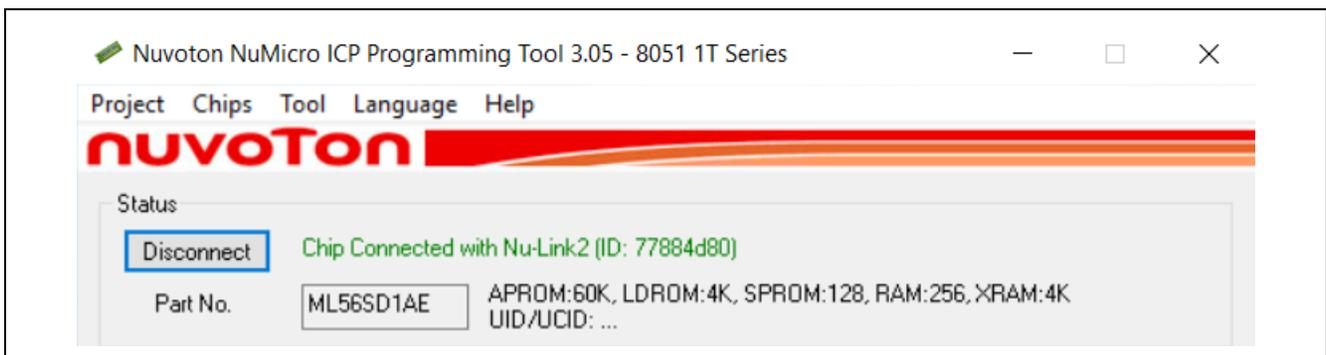
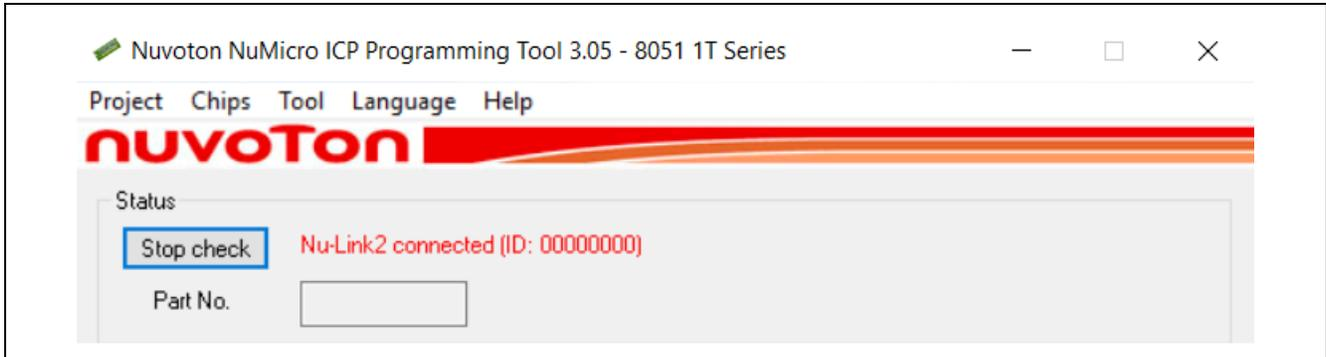

Figure 4-6 Nu-Link2-Pro Connected with a Target Chip Detected
Figure 4-7 Nu-Link2-Pro Connected with No Target Chip Detected
(8) After the **Connect** button is clicked, the ICP Tool will be connected with the Nu-Link2-Pro, and an SWD port will be detected. Figure 4-6 shows that the ICP Tool has been connected with the Nu-Link2-Pro and a target chip is detected. Meanwhile, users can start programming the target chip.
(9) Figure 4-7 shows that the ICP Tool has been connected with the Nu-Link2-Pro yet no target
- (10) Click the **Disconnect** button if programming is not required, as shown in Figure 4-6. Or click the **Stop Check** button to disconnect the ICP Tool from the Nu-Link2-Pro, as shown in Figure 4-7. After the disconnection, the Nu-Link2-Pro can resume a connection with another tool.